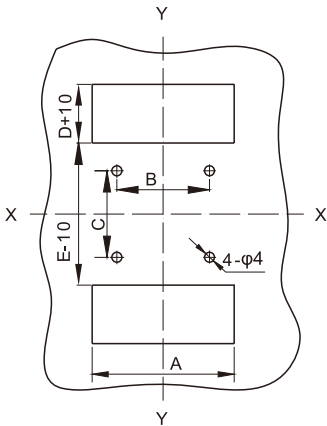

Figure 9 Plug-in front-of-board wiring mounting plate opening dimensions
(3) See Figure 9 for plug-in front of plate wiring mounting plate opening dimensions (X-X, Y-Y are 3 pole circuit breaker centers)